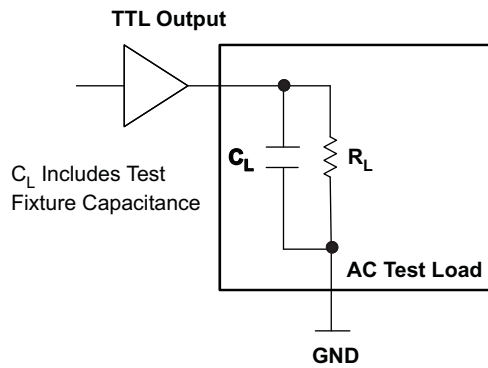

Figure 4. TTL Output AC Test Loading Condition
- (1) The device will meet the specifications after thermal equilibrium has been established when mounted in a test socket or printed circuit board with maintained transverse airflow greater than 500 lfm. Electrical parameters are assured only over the declared operating temperature range. Functional operation of the device exceeding these conditions is not implied. Device specification limit values are applied individually under normal operating conditions and not valid simultaneously.
- (2) $R_L = 500\ \Omega$ to GND and $C_L = 20\text{ pF}$ to GND . See Figure 4. Measured with 750mV, 50% duty cycle clock source
- (3) Skews are measured between outputs under identical transitions
- (4) $V_{PP(\min)}$ is minimum input swing for which ac parameters are assured.